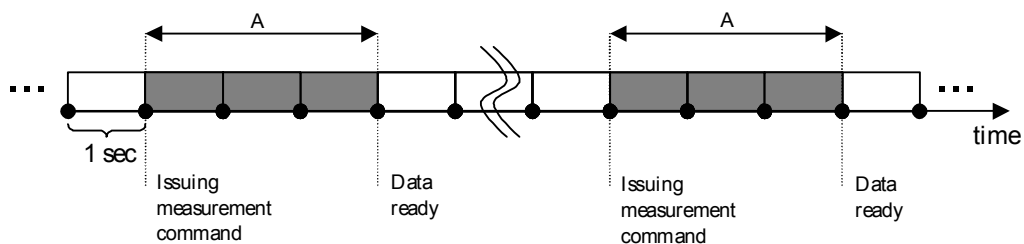

Figure 21 Wind Measurement Averaging Method
The three cases in Figure 21 on page 117 represent the wind measurement averaging for different selections of communication protocol, wind measurement update interval (I) and averaging time (A). Scalar averaging is used for both wind speed and direction. For direction, zero degree crossing, when present, is taken correctly into account in averaging.